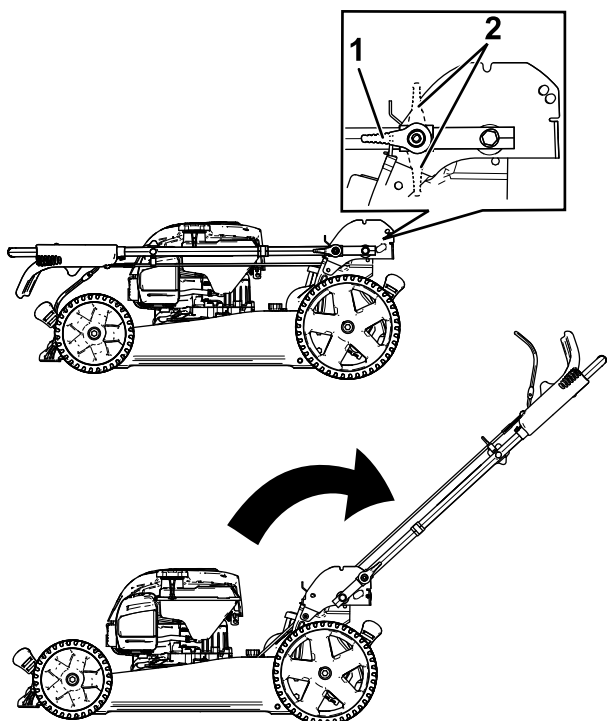

Figure 3
1. Disengage the handle locks (Figure 3).
2. Move the handle rearward to the operating position (Figure 3).